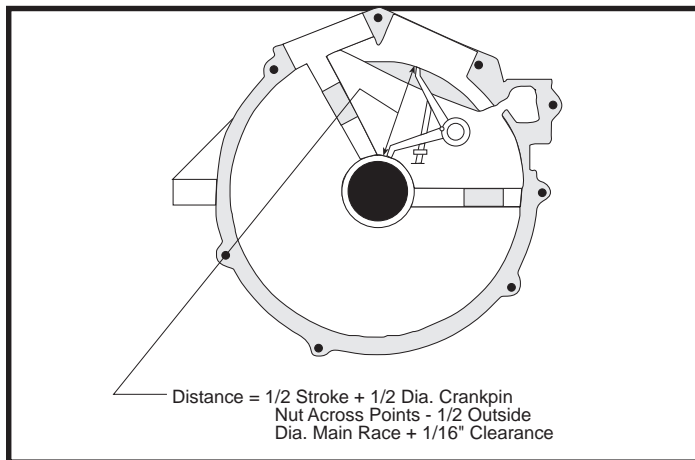

Figure 3
- B. Use divider to scribe arc on blued bosses. **See Figure 3.** Formula for spread of divider is: